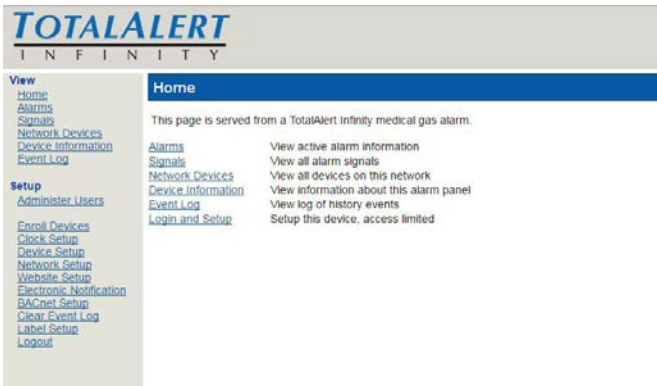

Figure 283
3. The left side bar will now contain the "Label Setup" link. (See Figure 283)